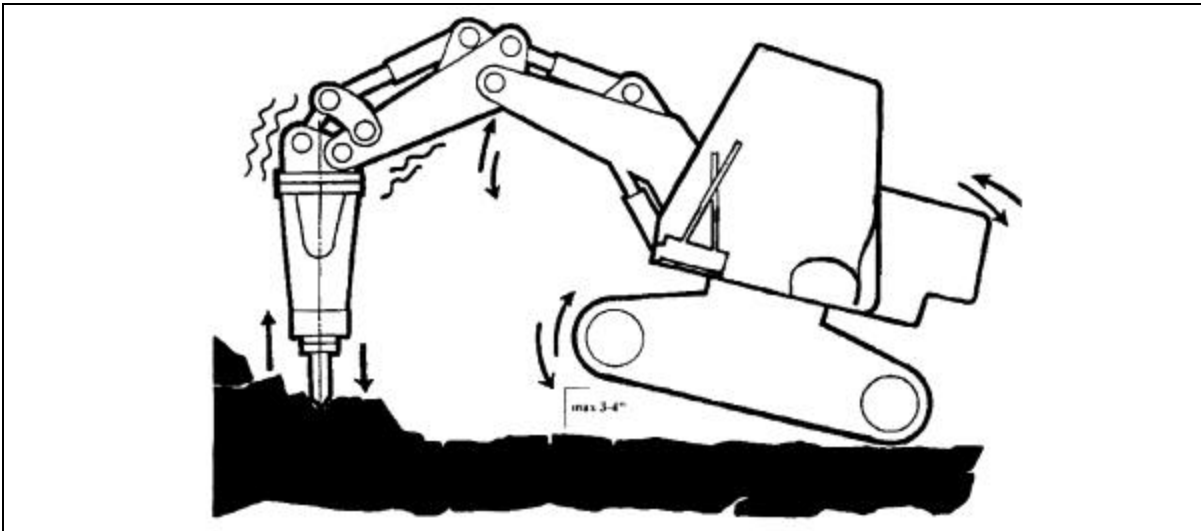

Figure 02-03: Maintain Even Working Pressure
- c) Maintaining an even pressure from the carrier to the hammer, start the hammer. If the downward pressure from the boom is too weak, you will hear metallic (rather than sharp) strokes, because the hammer is not striking the tool correctly. If the downward pressure is excessive, it will produce strong vibrations in the carrier and the tool, retaining axle, bushings, etc. (Figure 02-03)